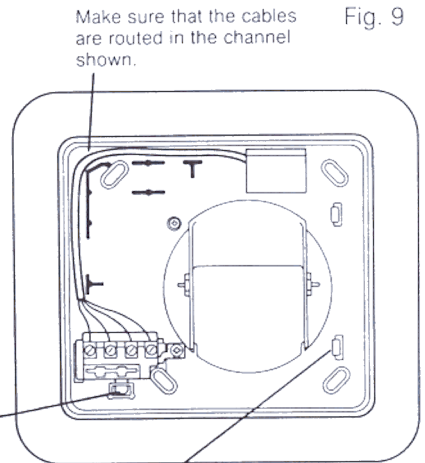

Fig. 9
**6.6** When the grout has set, make the electrical connections to the terminal block after releasing it from the backplate. (See Section 4 and Fig. 9).